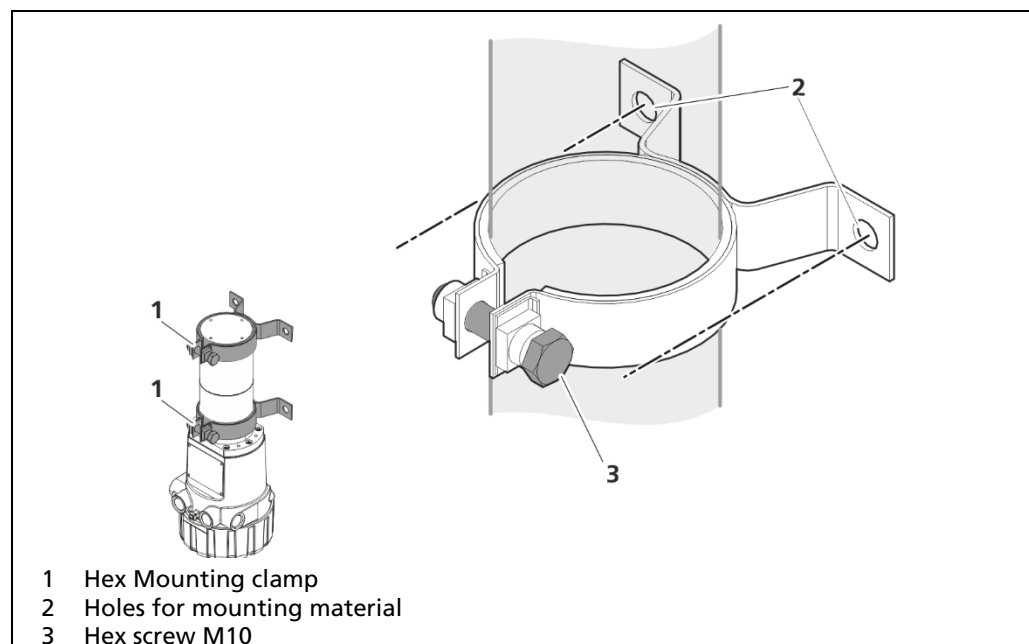

Fig. 6 Befestigungsschellen Typ 1
Mounting clamps (Fig. 6, Pos.1) are used to secure the detectors. These clamps are attached to mounting bases, crossbars, or similar structures provided by the operator (Fig. 6, Pos.2).
1. Unscrew the fastening screw (Fig. 6, Pos.3) on top of the mounting clamp.
3. Tighten the screw (Fig. 6, Pos.3) sufficiently so that the mounting clamp cannot slip on the detector.